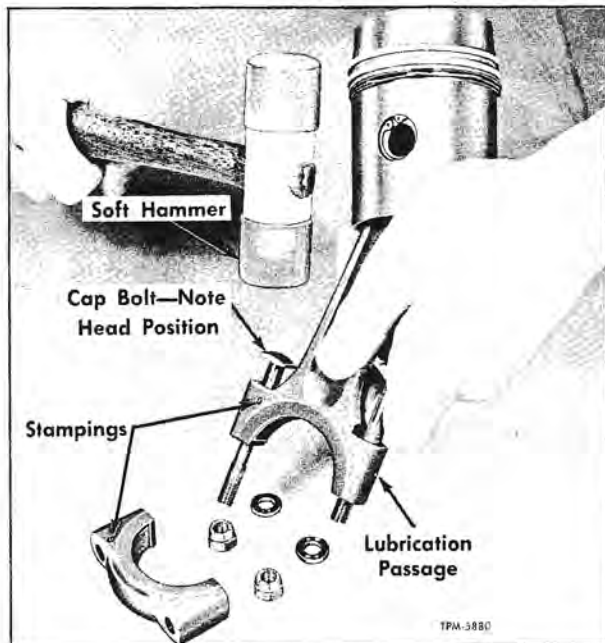

Figure 81—Installing Connecting Rod Cap Bolt
3. Inasmuch as connecting rod bolts (10) are a tight fit in connecting rod, they must be driven into place with a light weight soft hammer (fig. 81). Be sure that flat side of bolt head is positioned to mate with shank on rod.
6. Rotate the liner with reference to connecting rod so that side of rod with match marks (see figure 81 for match mark locations) are facing the seal end of compressor and the alignment pin and oil connector holes (fig. 87) are properly aligned for entry into housing liner bore.
7. All connecting rods have corresponding match marks (fig. 81) which identify the rod and cap as being matched. **IMPORTANT:** These two matched parts must be assembled so that they are on the same side of rod and when assembling the rod to crankshaft, the marks must always be positioned facing the seal end of compressor.